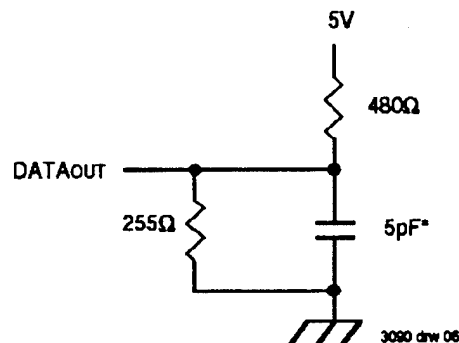

Figure 2. AC Test Load
2. This parameter is guaranteed with AC Test load (Figure 2) by device characterization, but is not production tested.